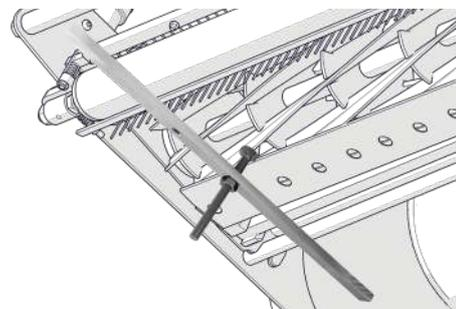

Fig.9E - Repeat process on the other side.
7. Repeat step 6 for the second position on the other side of the cassette (Fig.9E).